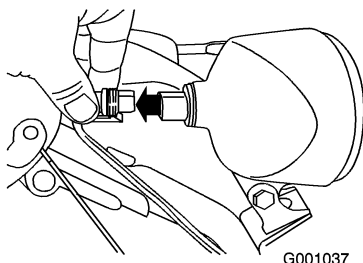

Figure 50
1. Remove the wire connector from the back of the headlight (Figure 50).